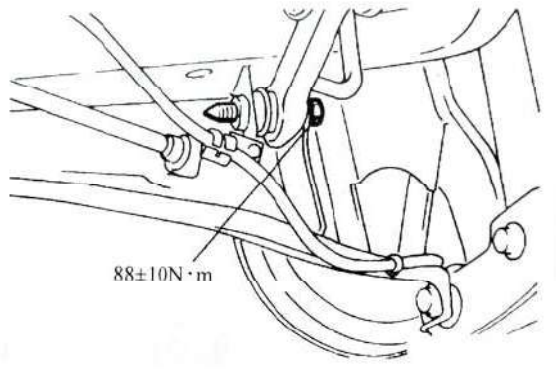

Fig.14B-4
3) Tighten control link to the trailing arm(Fig.14B-4)